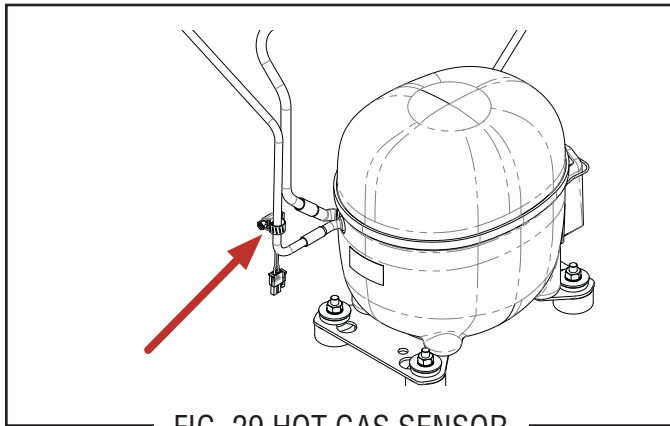

FIG. 29 HOT GAS SENSOR
5. Refer to Fig. 29 & 30 and plug the new sensor into the connector on the main harness.